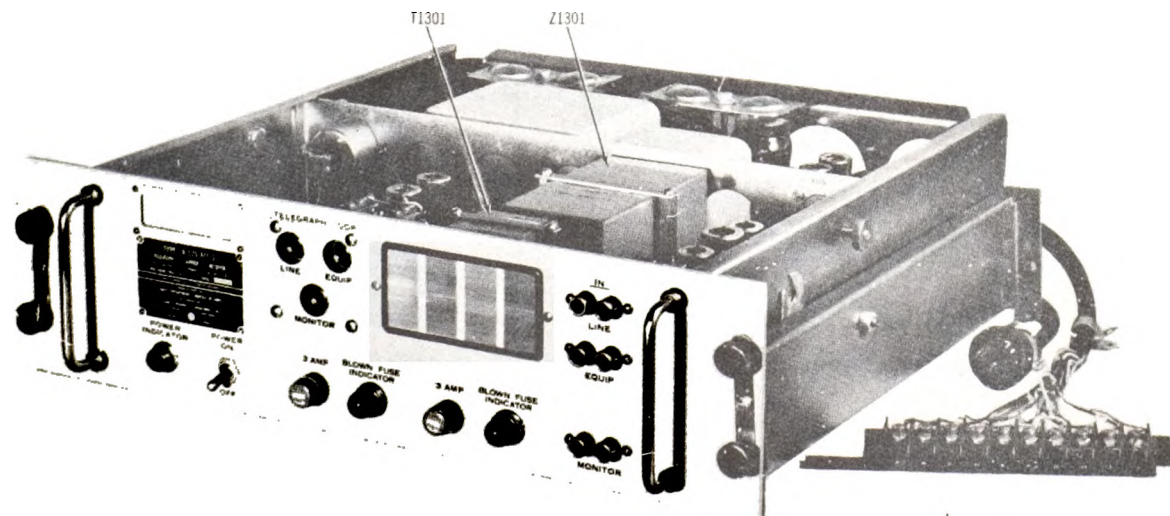

Figure 1-3. Telegraph Carrier Receivers, Identification of
c. TELEGRAPH CARRIER RECEIVERS. (See figure 1-3.) - This unit converts the frequency shift audio telegraph signals of the channel to DC pulses for operation of a telegraph printer or other telegraph end equipment. The telegraph carrier receiver consists of a power supply, signal limiter amplifier, output keying circuit, a plug-in band-pass filter and discriminator, and a diversity combining circuit. Jacks are provided in the output loop circuits for patching several telegraph printers into the same loop circuit. The unit operates from a single phase power source of 115/230 volts and 50/60 cycles. For 230 volt operation a transformer tap switch on the chassis must be changed. The circuit parts are mounted in a 19 inch panel and chassis combination 5-1/4 inches high and 16 inches deep. The chassis is provided with a sliding drawer mechanism which allows the chassis to be withdrawn from the cabinet and tilted up to expose the bottom for maintenance. The telegraph carrier receiver also includes Cable Assembly CX-2124/FCC-3 and Cable Assembly CX-2125/U (4'4"). Table 1-6 correlates the nomenclature of the twelve receivers with the mid-band center frequencies.